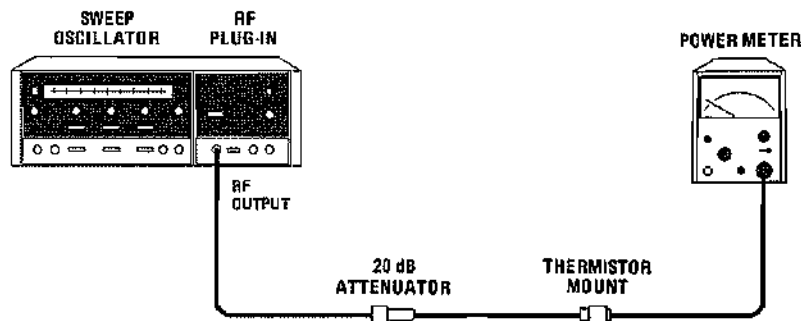

Figure 4-9. Internal Leveling Test Setup
- m. Connect equipment as shown in Figure 4-9.